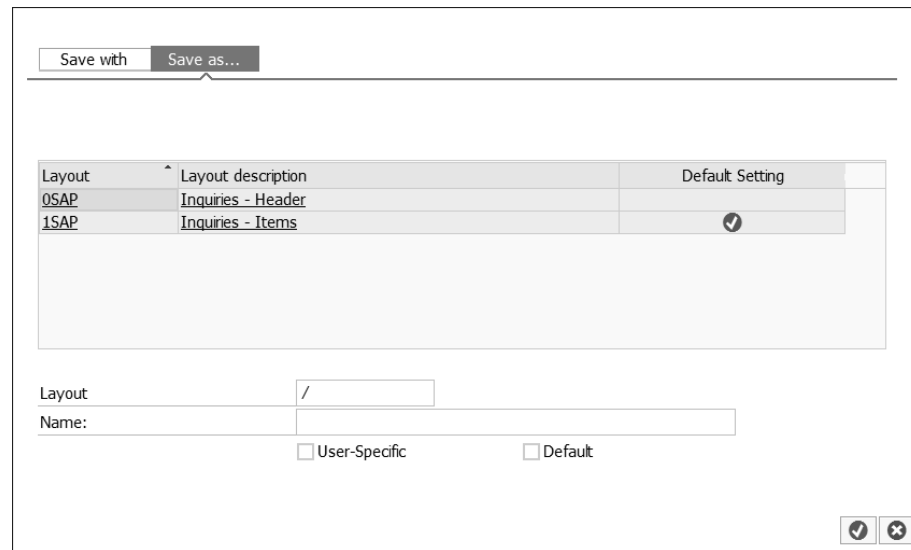

Figure 4.48 List of Inquiries: Saving the Layout
8. When you're happy with the layout of the **List of Inquiries** screen, save it for future use by clicking the **Save as** button, and you'll see the screen shown in Figure 4.48.